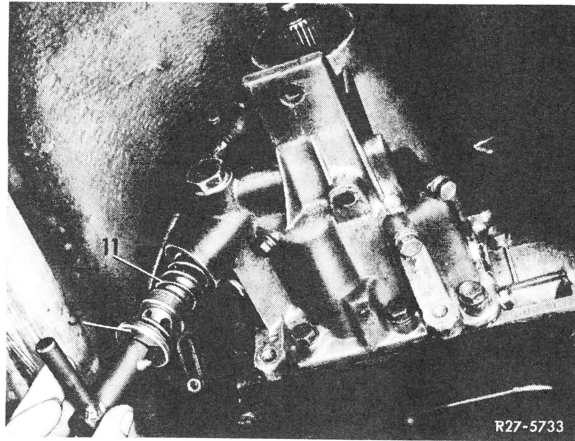

Fig. 5
20 Screw-in plug for secondary pump (5) together with compression spring (11) (Fig. 5).